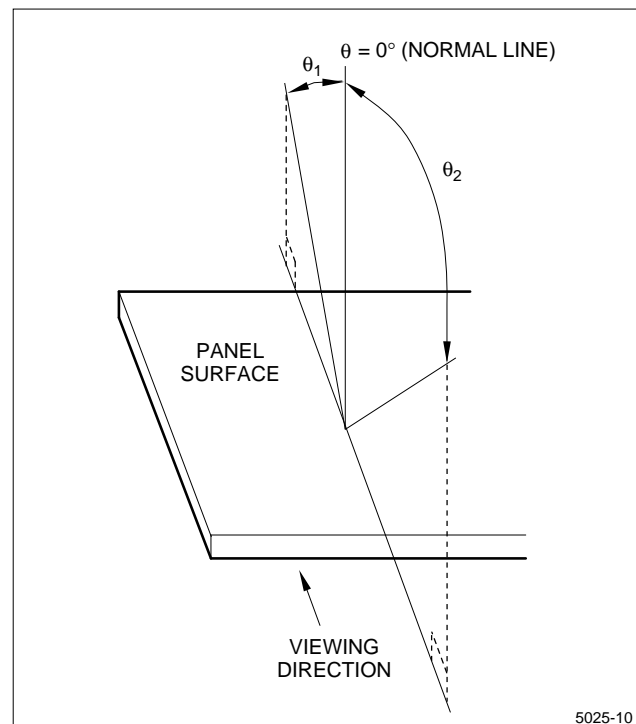

Figure 10. Dot Matrix LCD Viewing Angle
- Industrial (Mechanical) design of the product in which this LCD unit is incorporated must be so made that the viewing angle characteristics of the LCD are optimized. This unit's viewing angle is illustrated in Figure 10 and as follows: